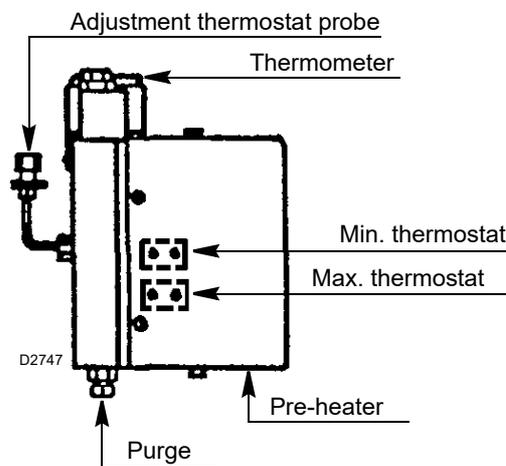

Fig. 21
**Minimum temperature thermostat** (Fig. 21), in addition to shutting down the burner if the fuel temperature should fall below the critical value for correct combustion, this thermostat also provides a permissive signal at the time of burner start-up. (Factory set at approximately 80°C, adjustable by removing the pre-heater cover and relative plate).
**Maximum temperature thermostat** (Fig. 21) this switches off the resistance when, because of failure of the adjustment thermostat, the temperature of the pre-heater increases to unacceptable levels; a "high temperature" alarm output is provided on the burner terminal strip. (Factory setting is approximately 180°C).
Reposition the probes of the new thermostat, after having first loosened the plate pack securing screws. Make sure that the probe is touching the resistance and the plate pack as shown in Fig. 21.